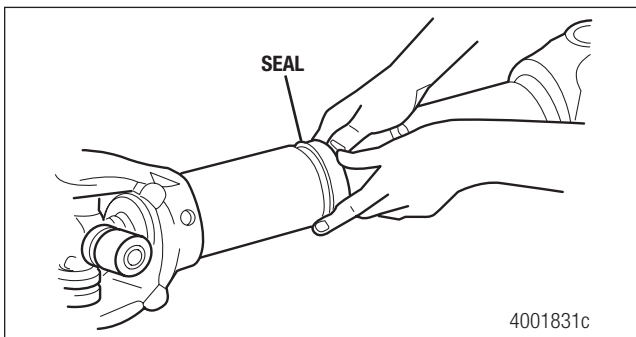

Figure 5.46
7. Snap the seal into the groove. Figure 5.46.